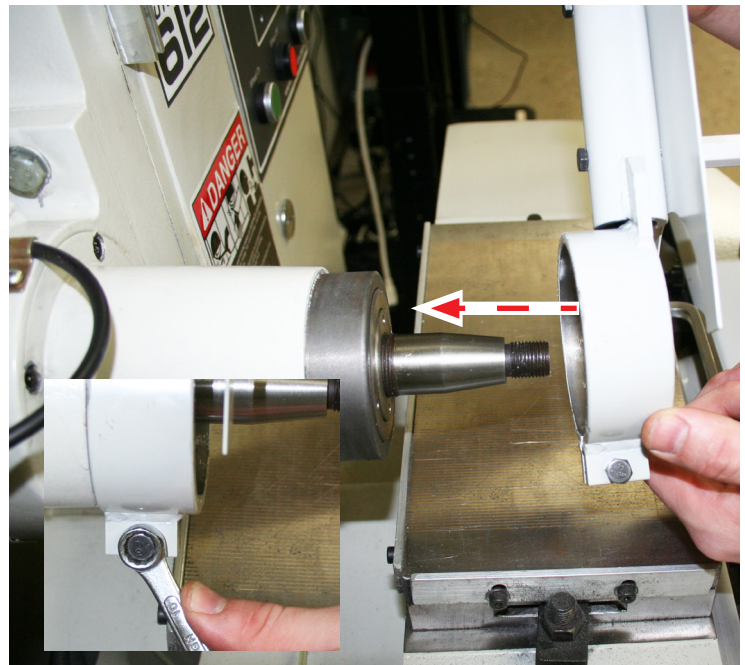

Figure 6
6. Install Tension Assembly at approximately 45° angle, ensuring it is pushed flush with clamp; tighten clamp bolt using a 10 mm wrench (see **Figure 6** and inset).